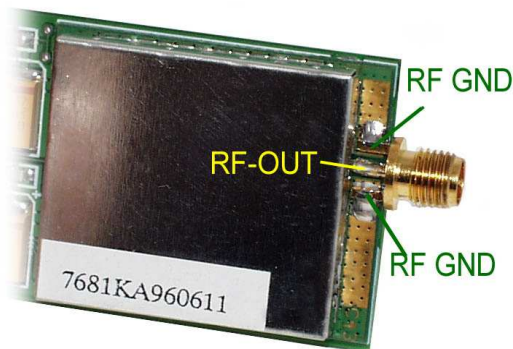

Figure 7, SMA-RP Top Side
- 7.2 Before soldering the RF module in place, temporarily slide the SMA-RP connector onto the module's RF output. See Figure 7. Adjust the module's placement on the PCB until the center pin of the SMA-RP is centered on top of the module's RF output trace. Once positioned, solder the module's four corners and its ten pins. Do not solder the SMA-RP at this time.
8 SMA-RP INSTALLATION: See Figures 7 and 8.
- 8.1 Slide the SMA-RP connector onto the RF output. See Figure 7. Do not allow the connector's center pin to short to the module's metal case (allow 50 mils clearance).